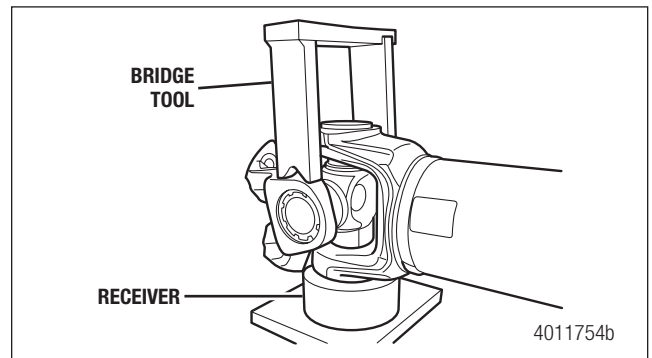
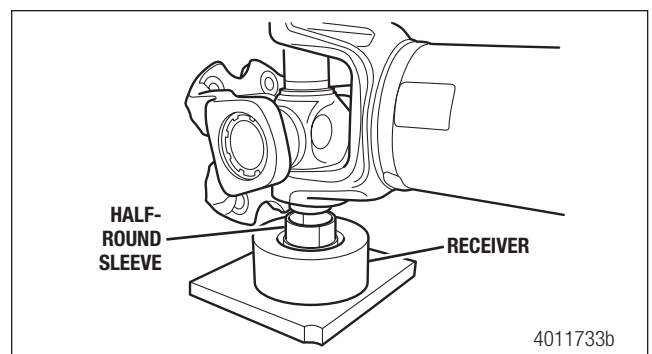

Figure 5.76
Figure 5.77
13. Install the press bridge tool and press DOWN. Remove the half-round sleeves from the trunnion and the bushing/bearing assembly from the receiver. Figure 5.76 and Figure 5.77.